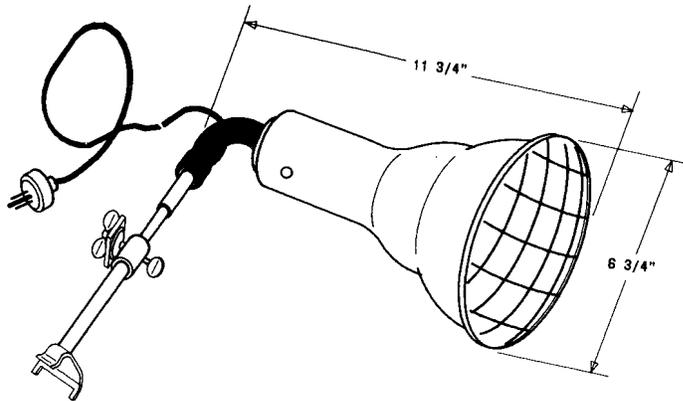

Fig. 5—AT-7541 C Heat Lamp Tool
2.08 **AT-7541:** The AT-7541 C heat lamp (Fig. 5) is used with a 115 to 125 volt infrared lamp, to provide heat and illumination for cable splicing operations in cold weather. It consists of an aluminum reflector heat resistant neoprene cord, and a telescoping bracket.